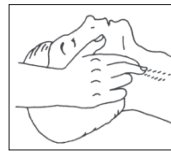
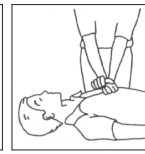
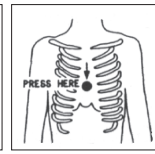

Figure 3
Figure 4
Figure 5
- Check the heart rate (**Figure 3**); in the absence of a heartbeat, immediately begin heart massage (**Figure 4**) by compressing the sternum approximately in the centre of the chest (**Figure 5**).